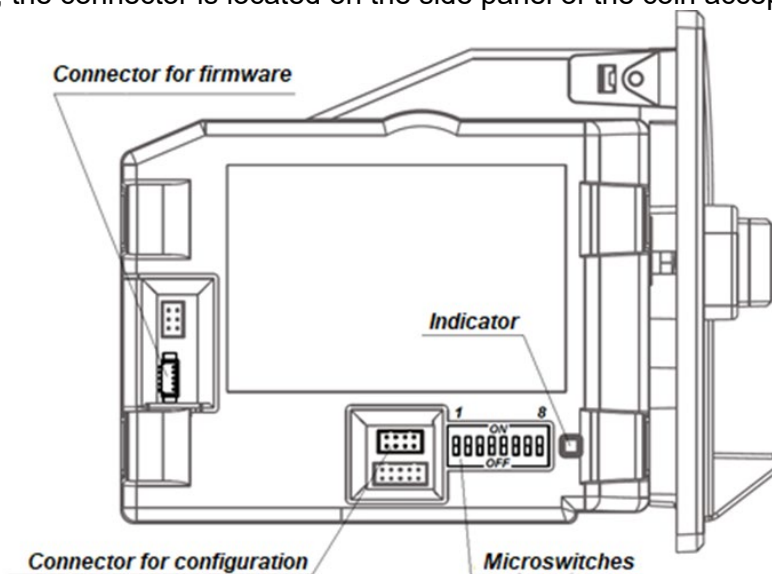

Figure 31. Connectors layout
1. Connect the coin acceptor to the PC COM port using the WEL-R7U06 cable (available separately), the connector is located on the side panel of the coin acceptor (see Fig. 31).
2. Power the coin acceptor (contacts 1 and 2 of the **XTU4** terminal strip, see Fig. 23). The indicator lights up (shown in Fig. 31).
9. Check the position of the microswitches on the side cover of the coin acceptor (see Fig.31):